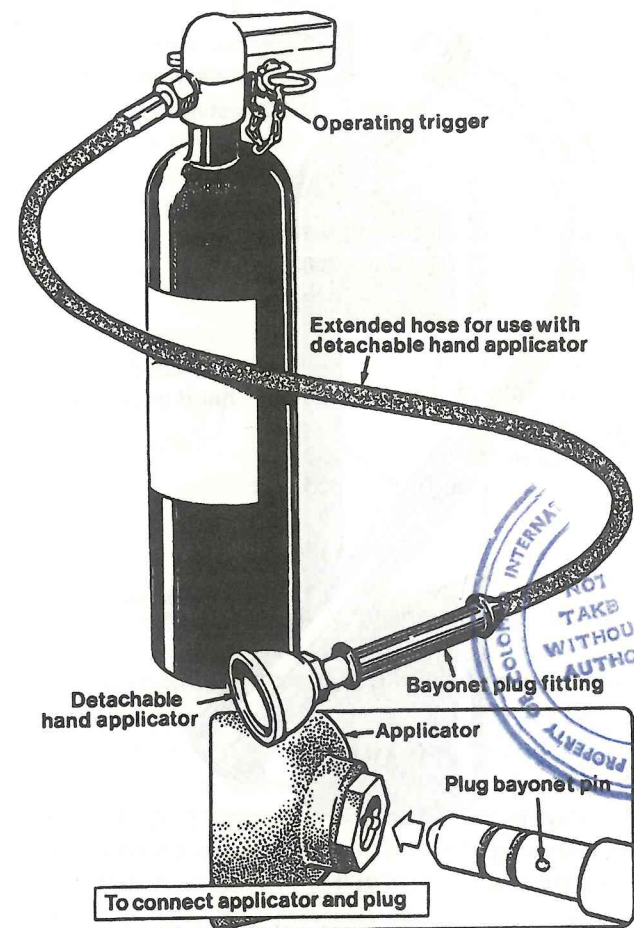

Fig 5-4. CO₂ Fire Extinguisher
- b. For use on open equipment and elsewhere in these compartments the hose is fitted with a hand applicator, which fits over the plug designed to prevent hand contact with the end of the hose (see Fig 5-4).